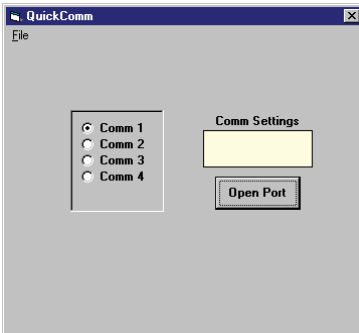

Figure 2. QuickComm Window
5. Launch DataTrac by double-clicking on the DataTrac icon. The program will display the QuickComm window (Figure 2).